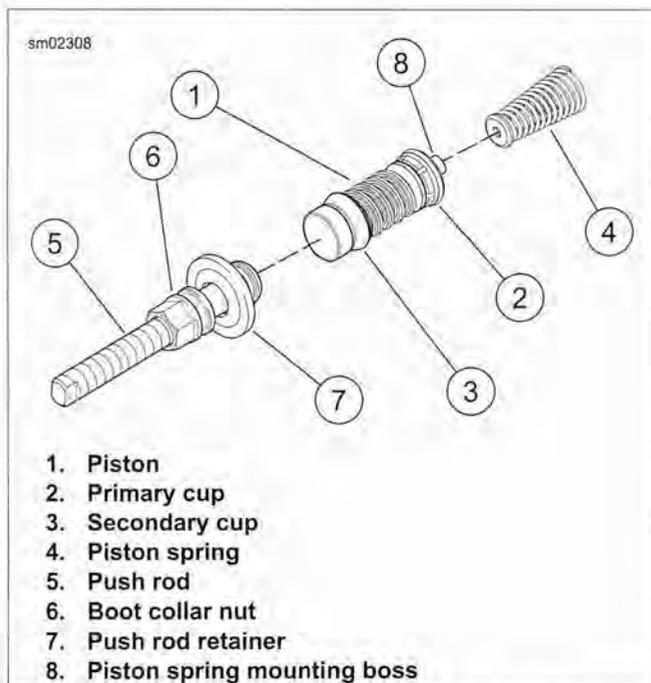

Figure 2-76. Rear Master Cylinder Piston, Push Rod and Spring Assembly
5. See Figure 2-76. Lubricate master cylinder bore, **new** piston (1) with **new** secondary cup (3), and **new** primary cup (2) with CCI #20 BRAKE GREASE supplied in the service parts kit.